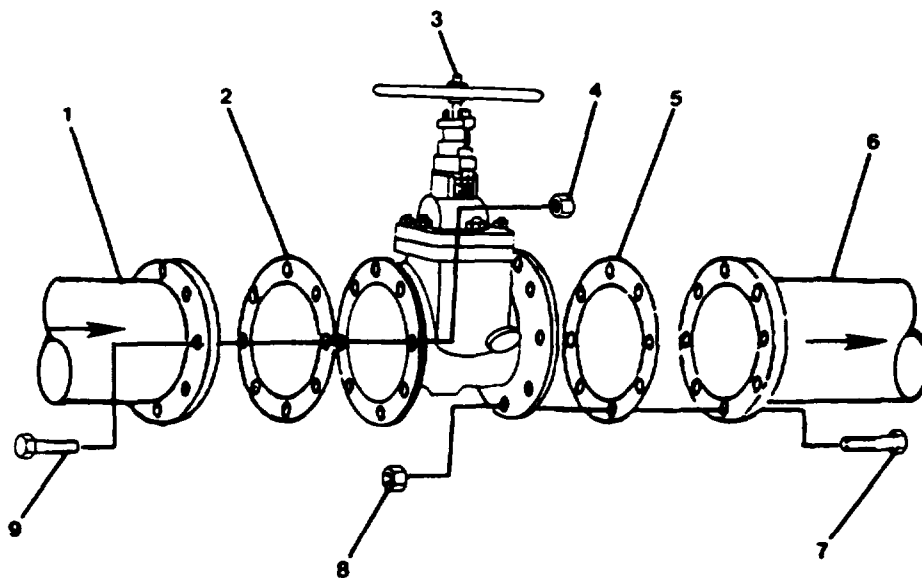

FIGURE 2-260. Repair Flanged Valves (Typical).
- (1) Trace inlet piping (1, FIGURE 2-260) to nearest manually operated shutoff valve.
- (2) Close shutoff valve.
- (3) Trace outlet piping (6) to nearest manually operated shutoff valve.
- (4) Close shutoff valve.